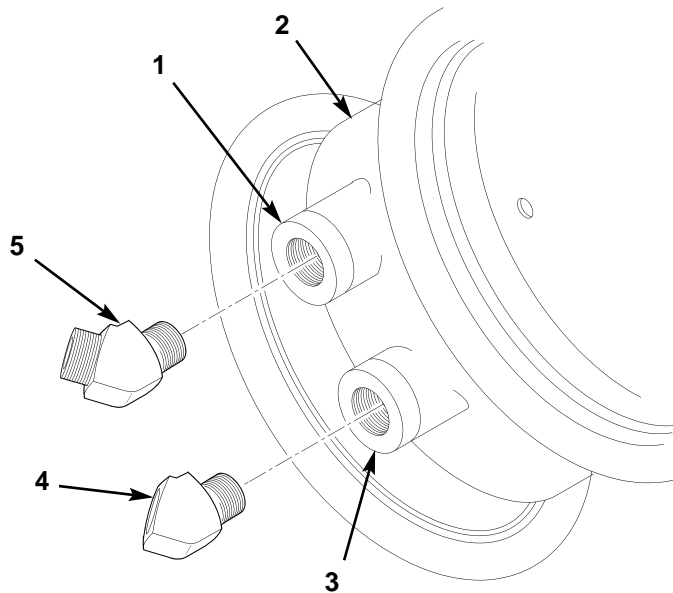

Figure 5. Installing Elbows.
1. Install elbow (figure 5, item 5) on parking brake port (figure 5, item 1) and install elbow (figure 5, item 4) on service brake port (figure 5, item 3) of spring brake chamber (figure 5, item 2).